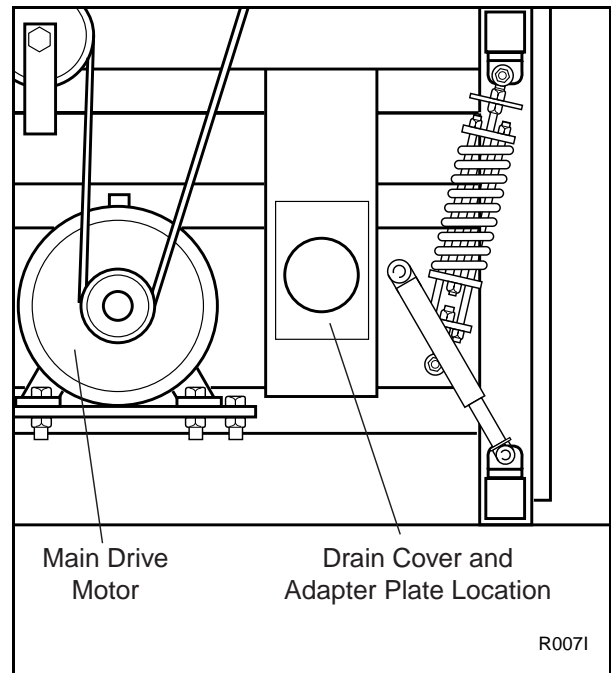

Figure 19
- a. Remove the drain cover plate on the right side of washer-extractor rear. See Figure 19.
- c. Install the drain adaptor plate included with the kit in the place of the drain cover plate. See Figure 19.